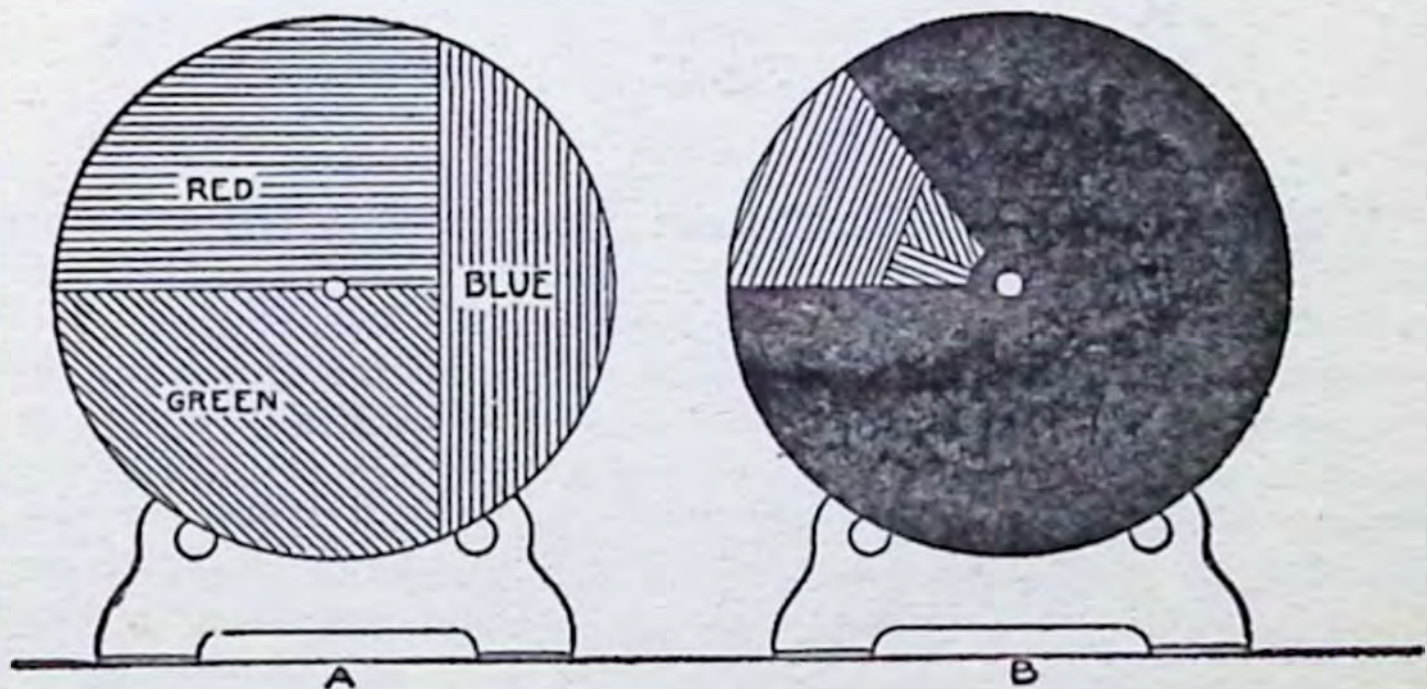

Fig. 34
(40) **THE CHAMELEON COLORS:** Cut out two disks of pasteboard 3 inches in diameter and on one of them paste three pieces of differently colored tissue paper as shown at A in Fig. 34. Paste a piece of black tissue paper on the other disk and cut a section out of it as at B. Now punch a hole in the center of each disk and mount the colored one on the motor shaft so that it will fit tight and mount the sector disk on the shaft so that it will be loose. Now start up your motor and then look at the color disk through the sector disk. On changing the speed of the latter, by touching its edge with your finger, it changes its position with reference to the color disk when you see the different colors in turn. The persistency of vision makes these colors run together and form rings whose colors constantly change.